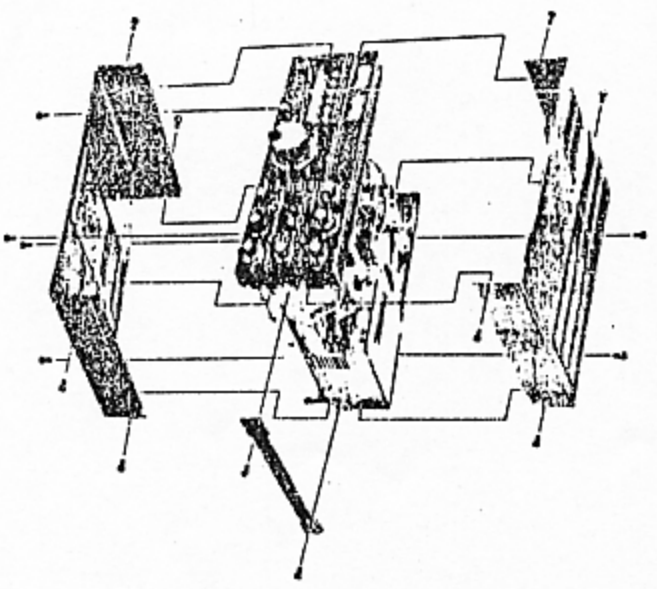

Figure 1
1. Disconnect the transceiver from the power source. Remove the two screws affixing the carrying handle, and then the fourteen screws affixing the top and bottom covers, as shown in Figure 1. Remove the handle and covers, and position the transceiver with its bottom side up.